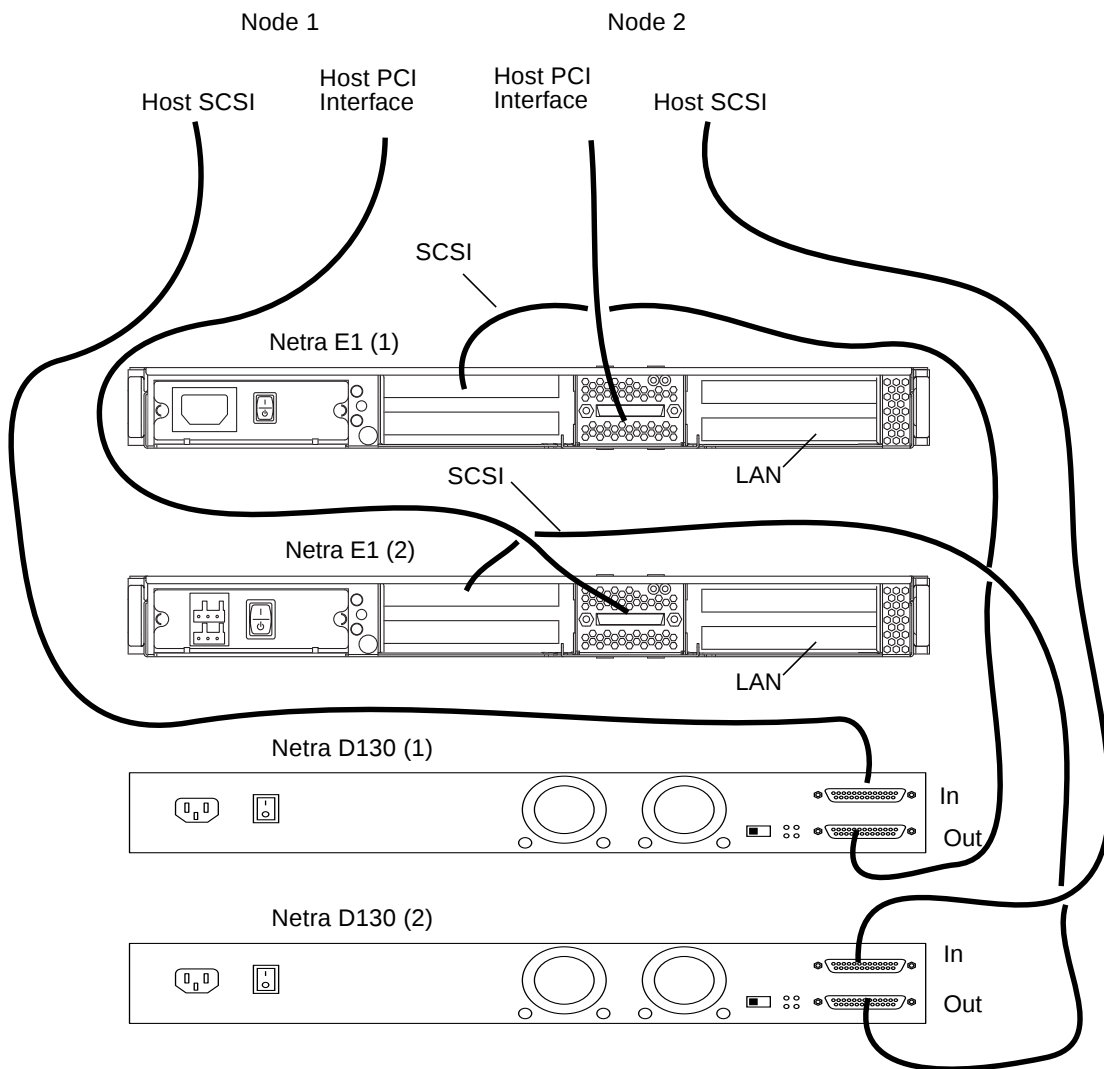

FIGURE 10-2 Example of SCSI Cabling for an Enclosure Mirrored Pair
1. **Connect the cables to the Netra D130/StorEdge S1 enclosures, as shown in FIGURE 10-2.**